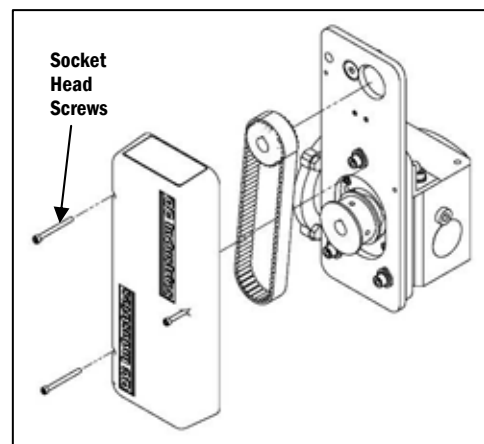

Figure 2
② Prepare the Drive Package
a. Remove the Guard by removing the three 6-32 x 1 1/2" Socket Head Screws using a 7/64" Allen Wrench (**Figure 2**). The top Sprocket and Belt (or Chain) are loose under the Guard.